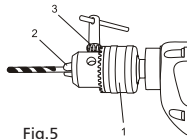

Fig.5
2. Rotate the chuck collar (1) to open or close the jaws (2) to a point where the opening is slightly larger than the bit size you intend to use (fig. 5).